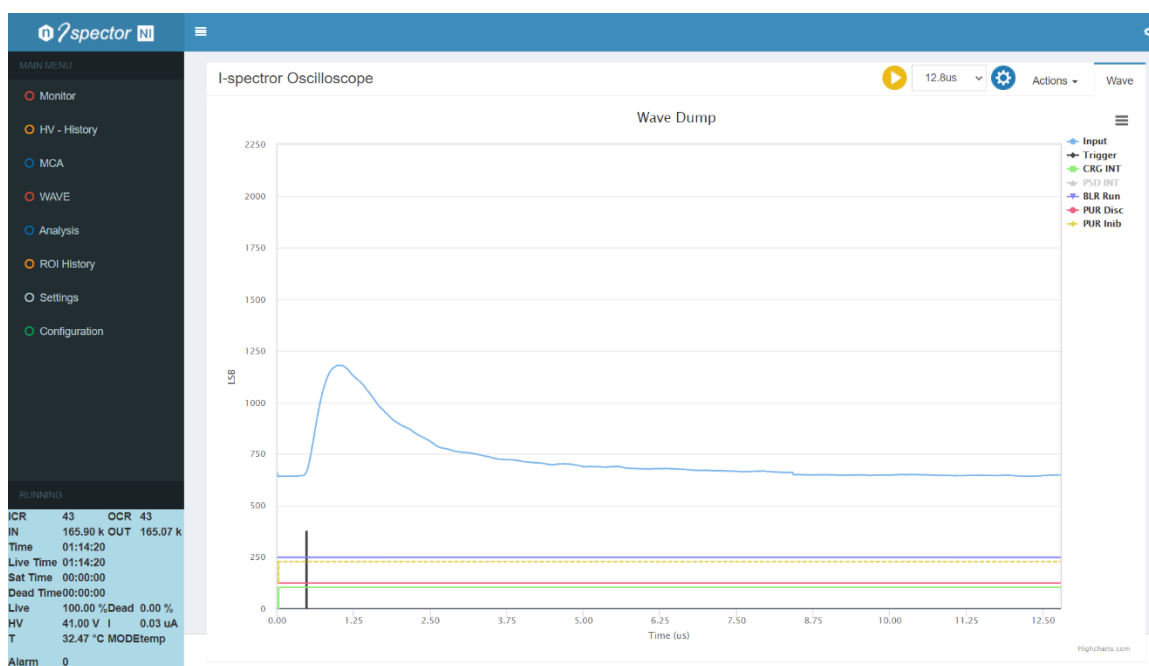

Fig. 4.3: the *WAVE* tab of the i-Spector Web Interface
5. You should see an exponential analog signal and the related digital traces (like Trigger, CRG INT, ...) as shown in Fig. 4.3.